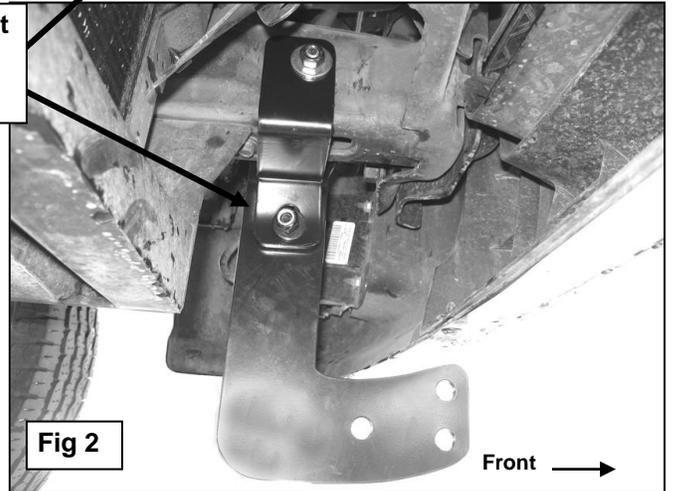

Fig 2
3. Position the driver side Mounting Bracket over the factory bolt and secure with the factory hex nut. Line up the slot in the side of the Mounting Bracket with the factory hole through the frame, **(Figure 1A & 1B)**. Select the driver side Support Bracket and position it up to the back side of the frame as shown in **Figure 2**. Check for clearance and trim the plastic spoiler as required to clear brackets. Secure the Mounting Bracket and Support Bracket to the frame at the upper mounting position with the included (1) 12mm x 100mm Hex Bolt, (2) 12mm Flat Washers and (1) 12mm Nylon Lock Nut, **(Figure 2)**. Bolt the Support Bracket to the Mounting Bracket at the lower mounting position with (1) 12mm x 30mm Hex Bolt, (2) 12mm Flat Washers and (1) 12mm Nylon Lock Nut. Do not tighten hardware at this time.